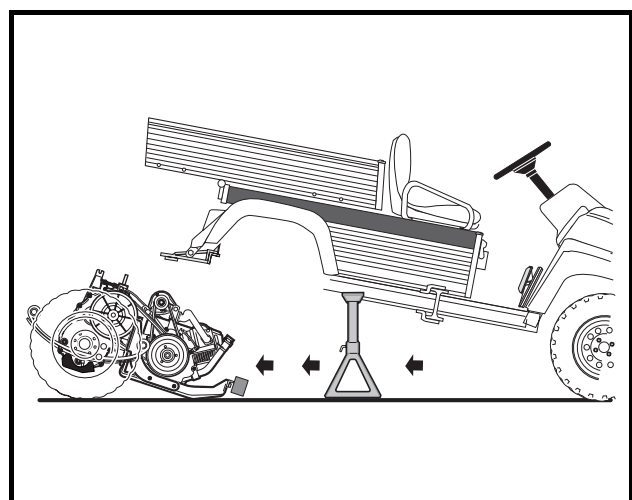

Figure 16-30 Remove Powertrain
14. Grasp the ends of the leaf springs at the rear of the powertrain and roll the powertrain out from under the vehicle (**Figure 16-30, Page 16-13**).